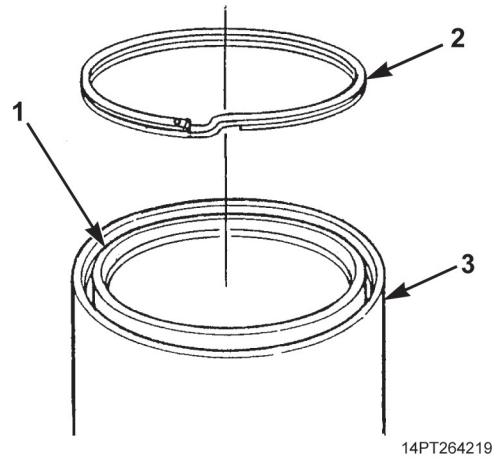

Figure 15. Spiral Retaining Ring Removal.
21. Retract sleeve (Figure 15, Item 1). Remove spiral retaining ring (Figure 15, Item 2) from barrel (Figure 15, Item 3). Discard spiral retaining ring.